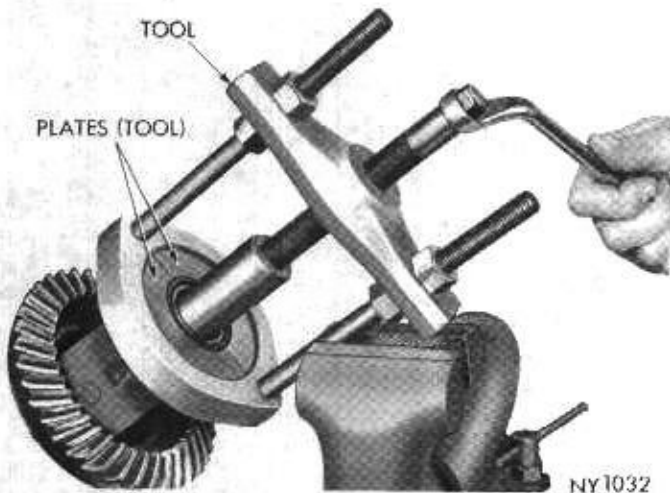

Fig. 14—Removing Differential Bearing Cone
(18) With small drift remove differential pinion shaft lock pin from drive gear side of case.
(19) With a brass drift remove differential pinion shaft.
(20) Rotate differential side gears until differential pinions appear at differential case windows and remove.
(21) Remove differential side gears and thrust washers.
(22) Remove differential bearings using Tool C-293 and #44 plates (Fig. 14).